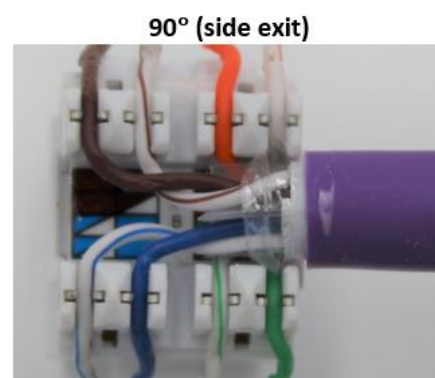

Fig. 7
**NOTE:** This allowance is not necessary for 90° (side exit) Fig.7 See below.